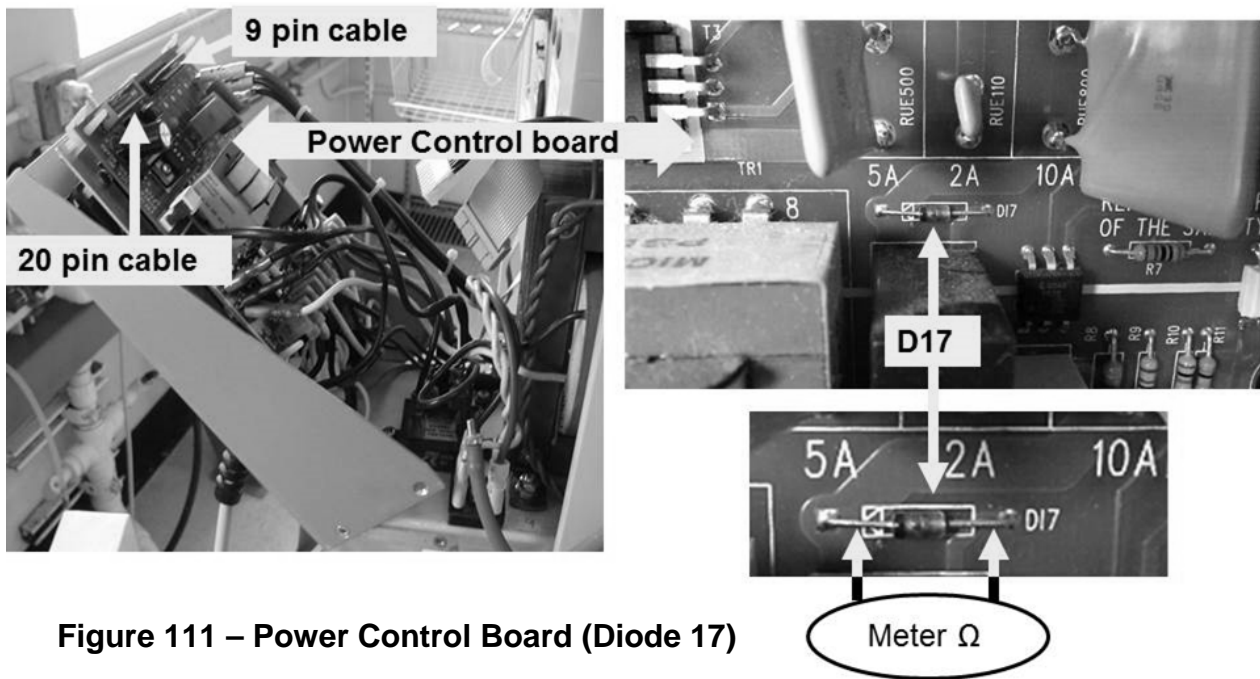

Figure 111 – Power Control Board (Diode 17)
- Per Figure 111 below, open the power supply to see the component side of the Power Control board.
- The twenty (20) and nine (9) pin* cables MUST be unplugged! *BEFORE unplugging the nine pin cable NOTE its polarity (i.e. orange wire on the right)!
- Per Figure 111, check diode 17 (D17) by placing one meter lead on one side of it and the other lead on the other side.
- Figure right, reading the meter's numeric AND units display, TWO (2) possible scenarios: